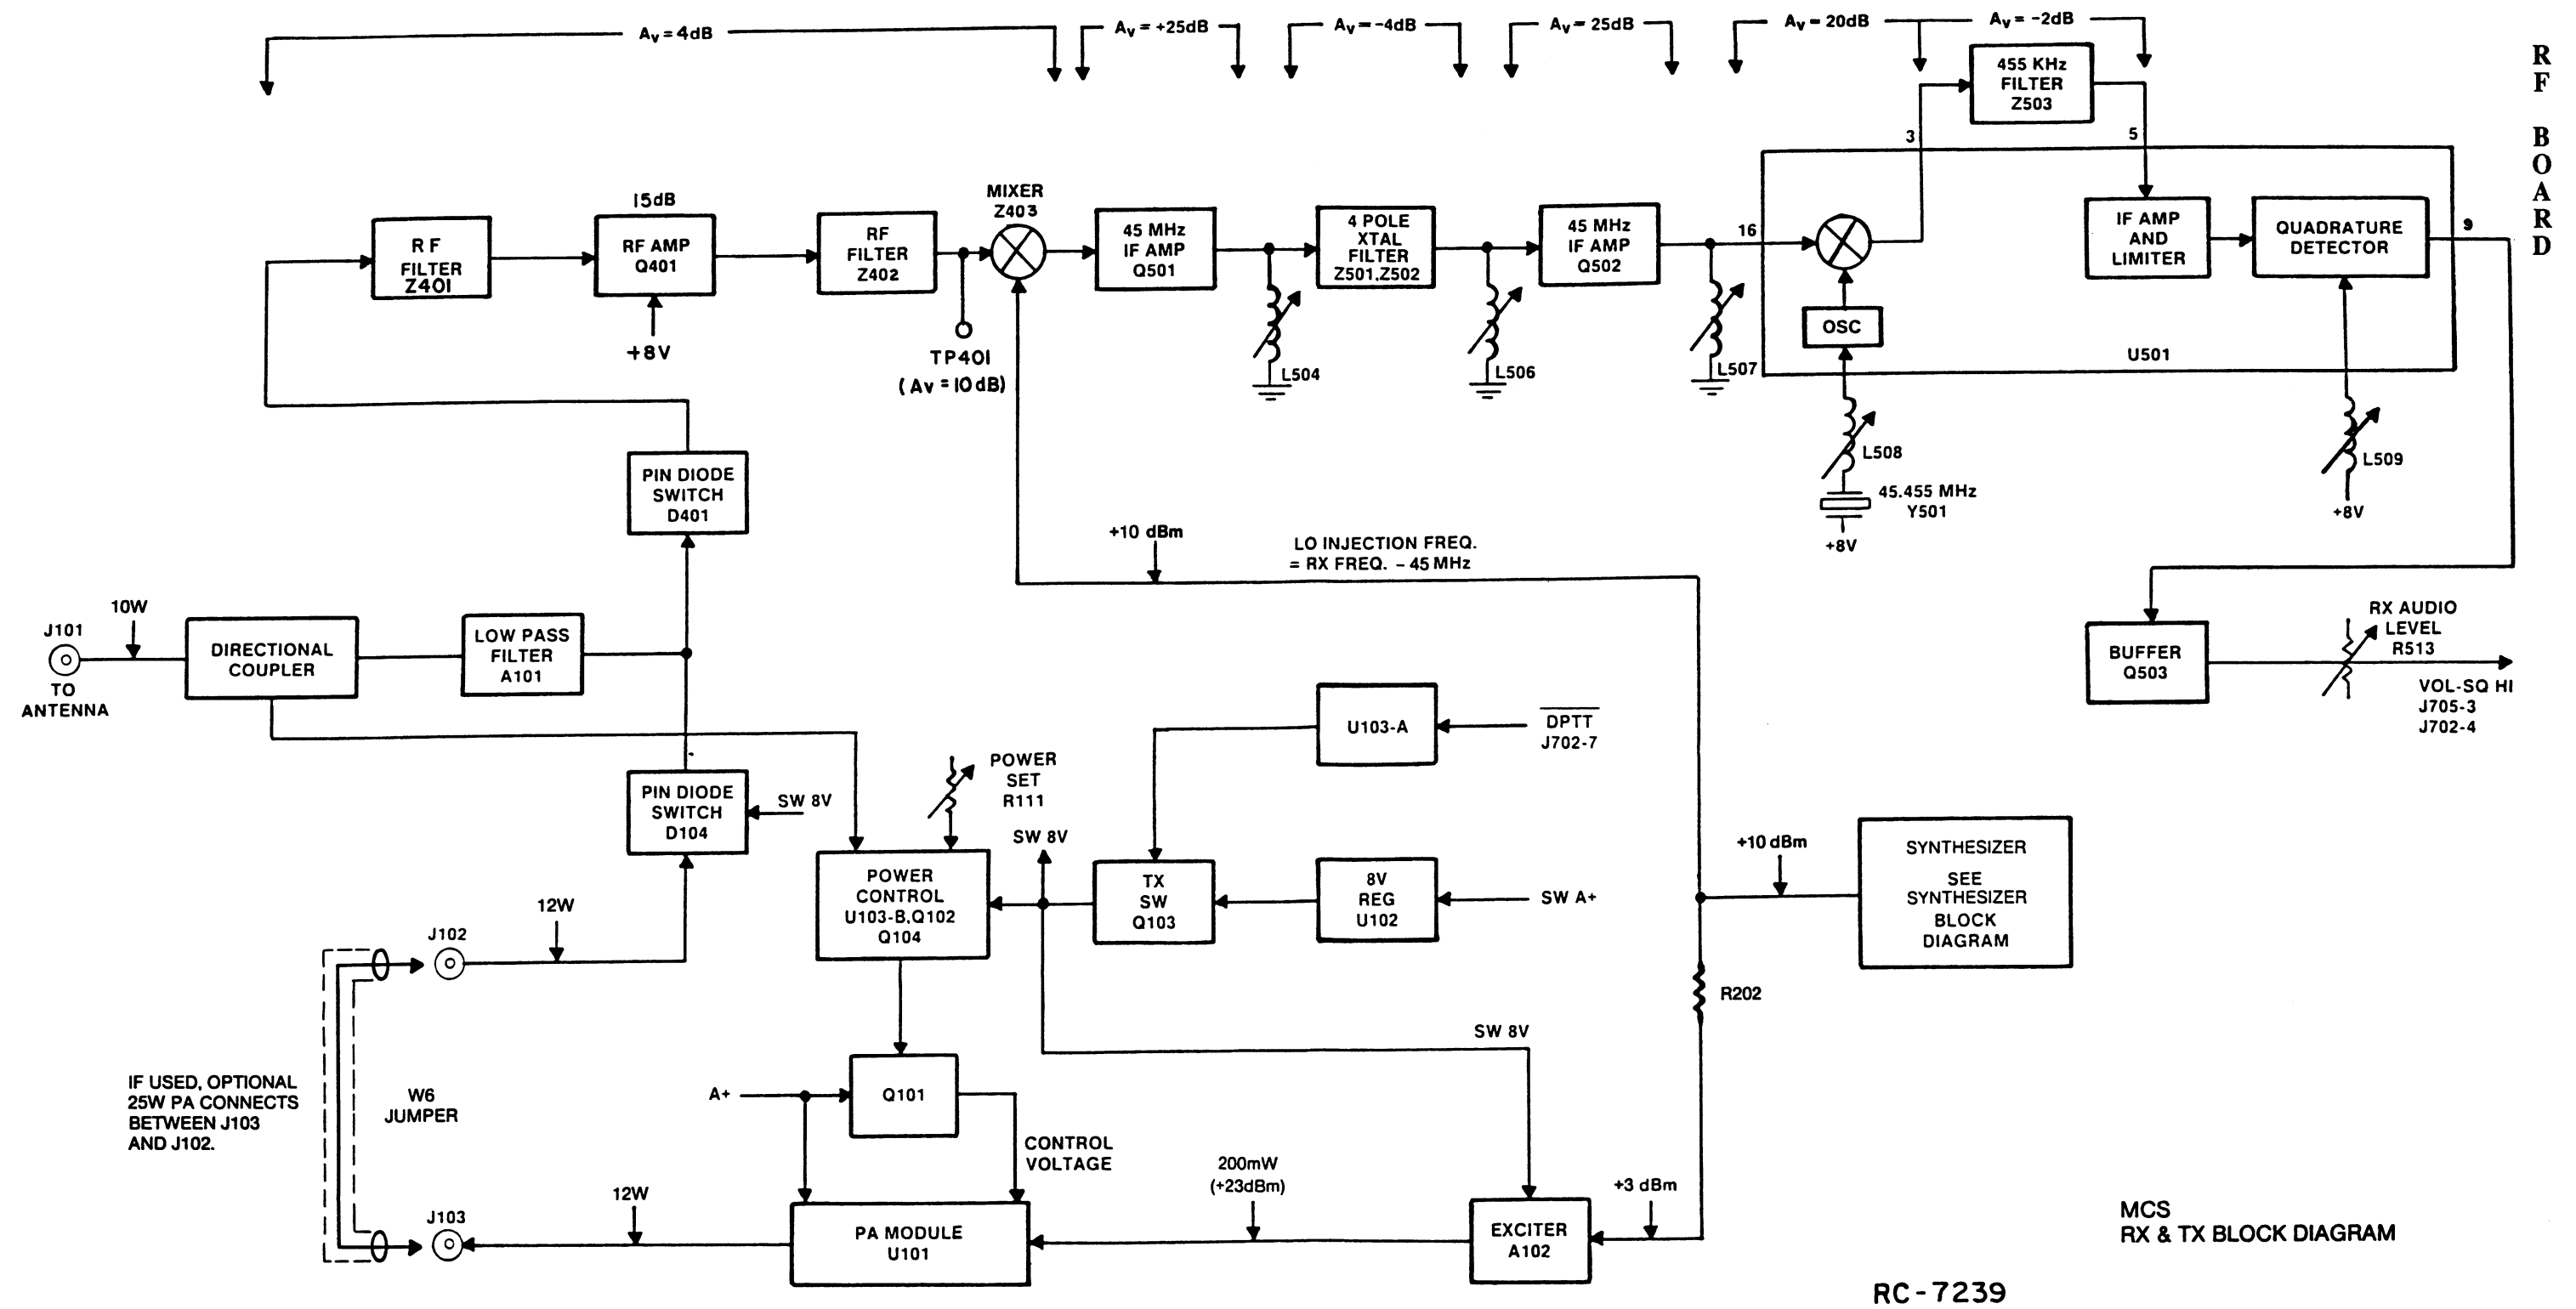
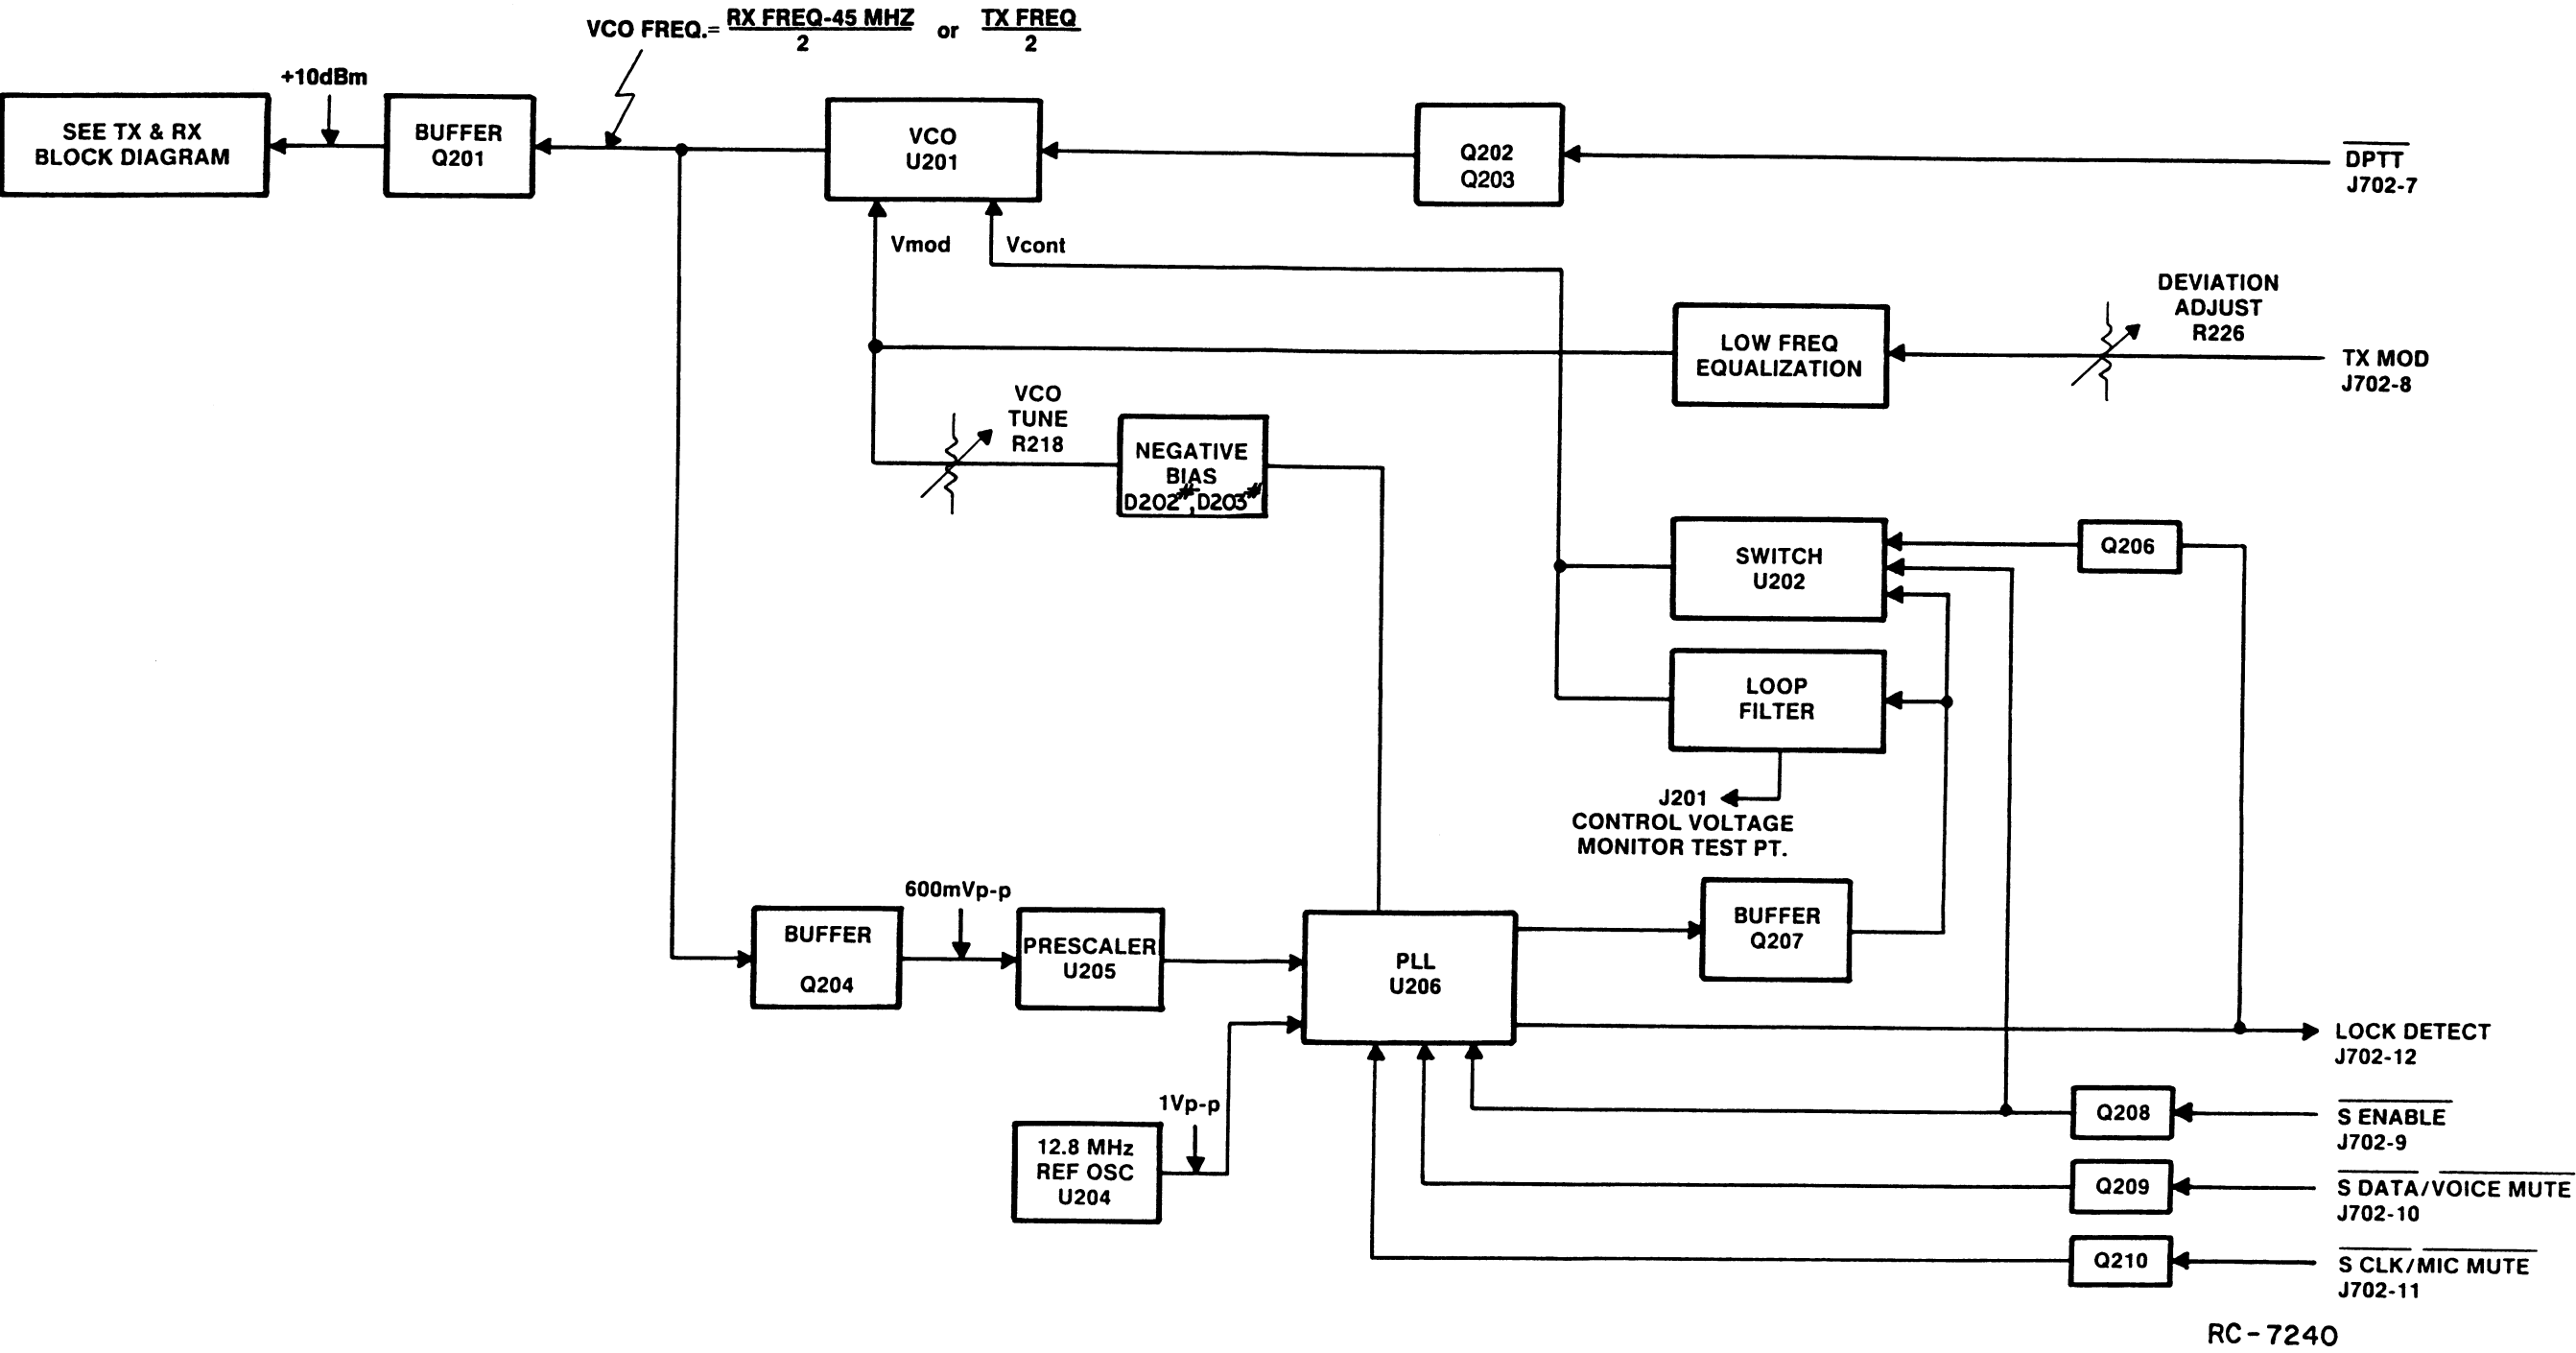

Figure 1 - RX & TX Block Diagram
Figure 2 - Frequency Synthesizer Block Diagram
The RF Board is mounted in the bottom of the frame assembly. Refer to Combination Manual for a mechanical layout of the radio. Figure 1 provides a block diagram of the receive and transmit circuits. Figure 2 provides a block diagram of the synthesizer.
Figure 1 shows the synthesizer driving the receiver mixer at +10 dBm and is attenuated by R202 to +3 dBm for driving the exciter input. The exciter module A102 operates from a switched 8 volt supply. A different exciter module is required for each of the three band splits. No tuning is required. Both input and output ports operate at 50 ohms impedance. The exciter module provides typically 20 dB of gain and 200 mW of output power to drive the power amplifier module.
Most transmitter circuit problems can be isolated by checking the TX power gains shown in Figure 1 - RX and TX Block Diagram. The PA module U101 is capable of producing 10 watts output.
• Poor SINAD	1. Consult Figure 1 - RX and TX Block Diagram for RX stage gains and troubleshoot. NOTE: Use high impedance RF probe when measuring gain at TP401. A 50-ohm probe may be used if C415 is removed. DO NOT adjust Z401 or Z402 without sweep equipment or the 20 MHz sensitivity bandwidth will be sharply reduced. 2. Input cable 3. PIN Diode switch is shorted.